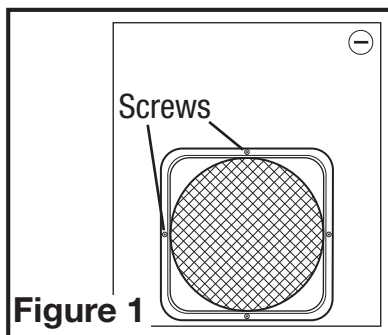

Figure 1
1. Remove the 4 screws holding the duct collar and gasket in place on the main unit. Save all these screws, the duct collar and gasket (**Figure 1**).